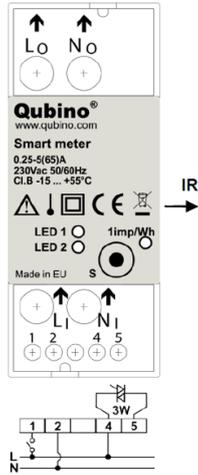

Figure 12. Qubino 1-Phase Smart Meter Terminals.
- It is designed to be mounted on a DIN rail (Figure 12).